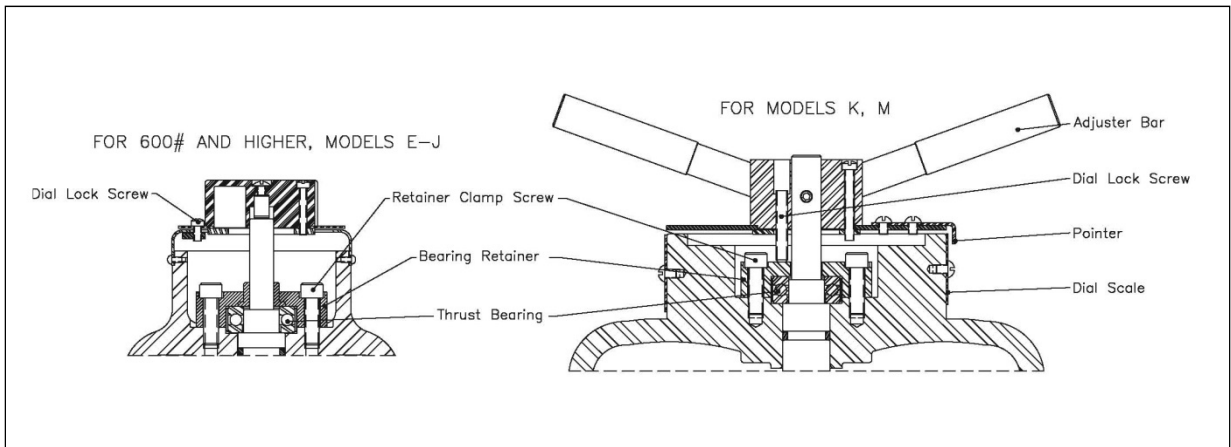

Figure 2
1. The only packing required is between the adjuster and the bonnet. This consists of a PTFE thrust washer and an O-ring of standard size, of a material that is suitable for use with the fluid flowing through the controller. For high pressures, a thrust bearing is used. (See figure 2)